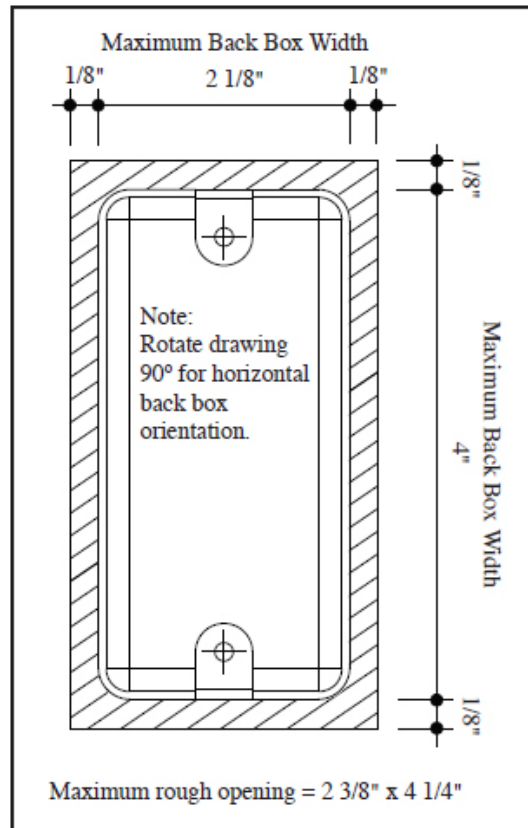

Figure 5
1. Verify that the dimensions of the back box opening do not exceed the maximum dimensions shown in Figure 5. If they do, the back box will not work with the WayGlo faceplate. Either replace the back box with the back box provided with the WayGlo product or install a new back box that meets the size requirements.
2. Review Figure 5 and make sure that there are not excessive gaps around the back box. The finished wall cutout cannot be more than 1/8" on any side of the back box. If the cutout is greater than that, be sure to patch the wall around the box until it meets the maximum opening dimension and maximum gap along the sides of the back box as shown in Figure 5.